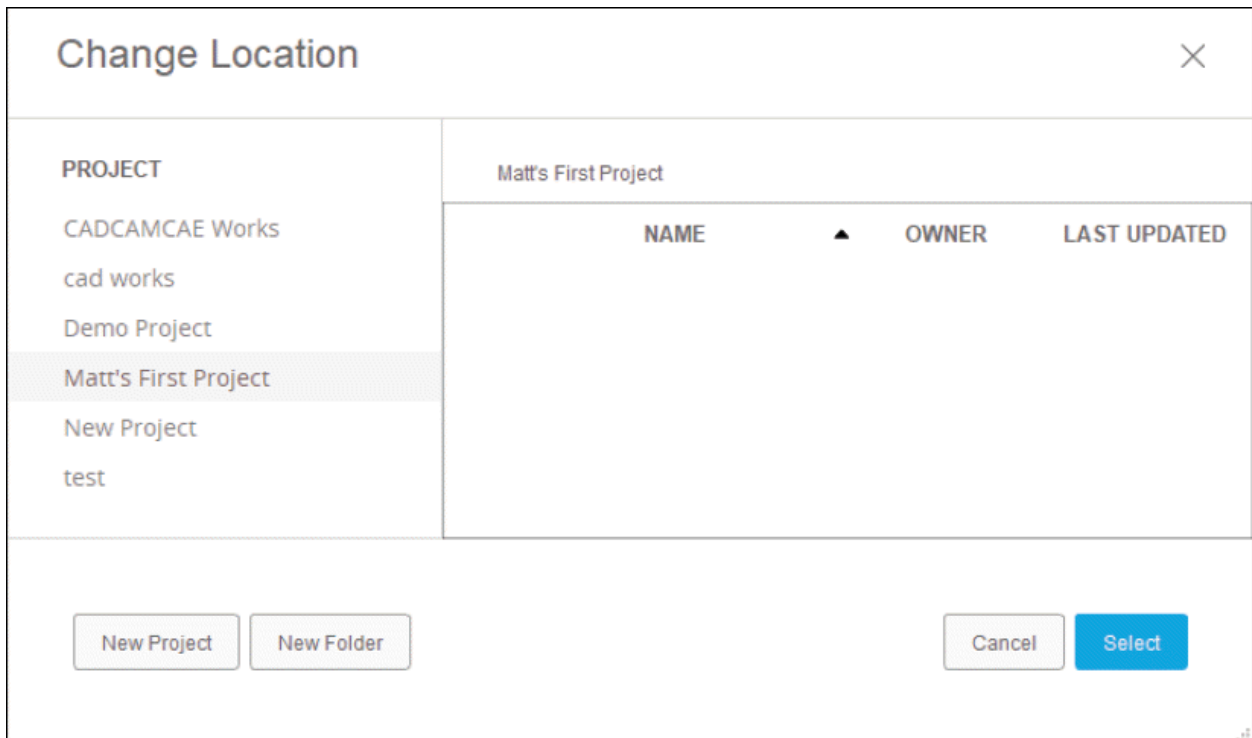

Figure-19. Change Location dialog box
- If you want to change the location where files will be uploaded then click on the **Change Location** button and select desired location from the **Change Location** dialog box; refer to Figure-19.